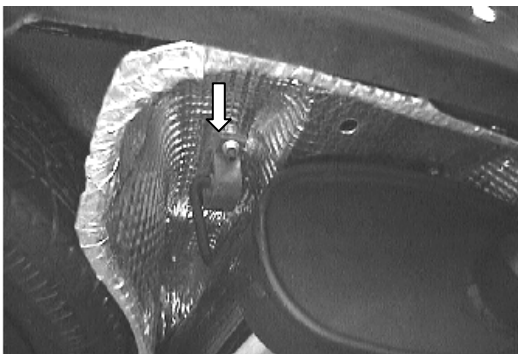

Figure 3
4. Unbolt the two rubber brackets such as the one shown in figure 3 on each side just above the rear muffler assembly.